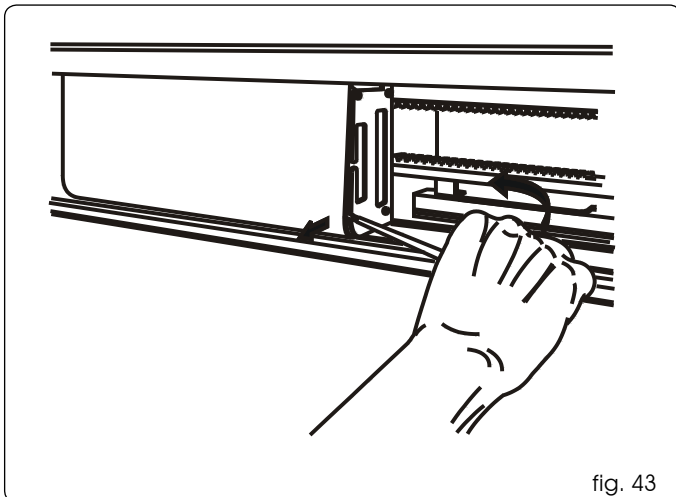

fig. 43
- Remove the protective covers of the SDM control units and transformer, delicately obtaining leverage with a screwdriver as shown in fig. 43.